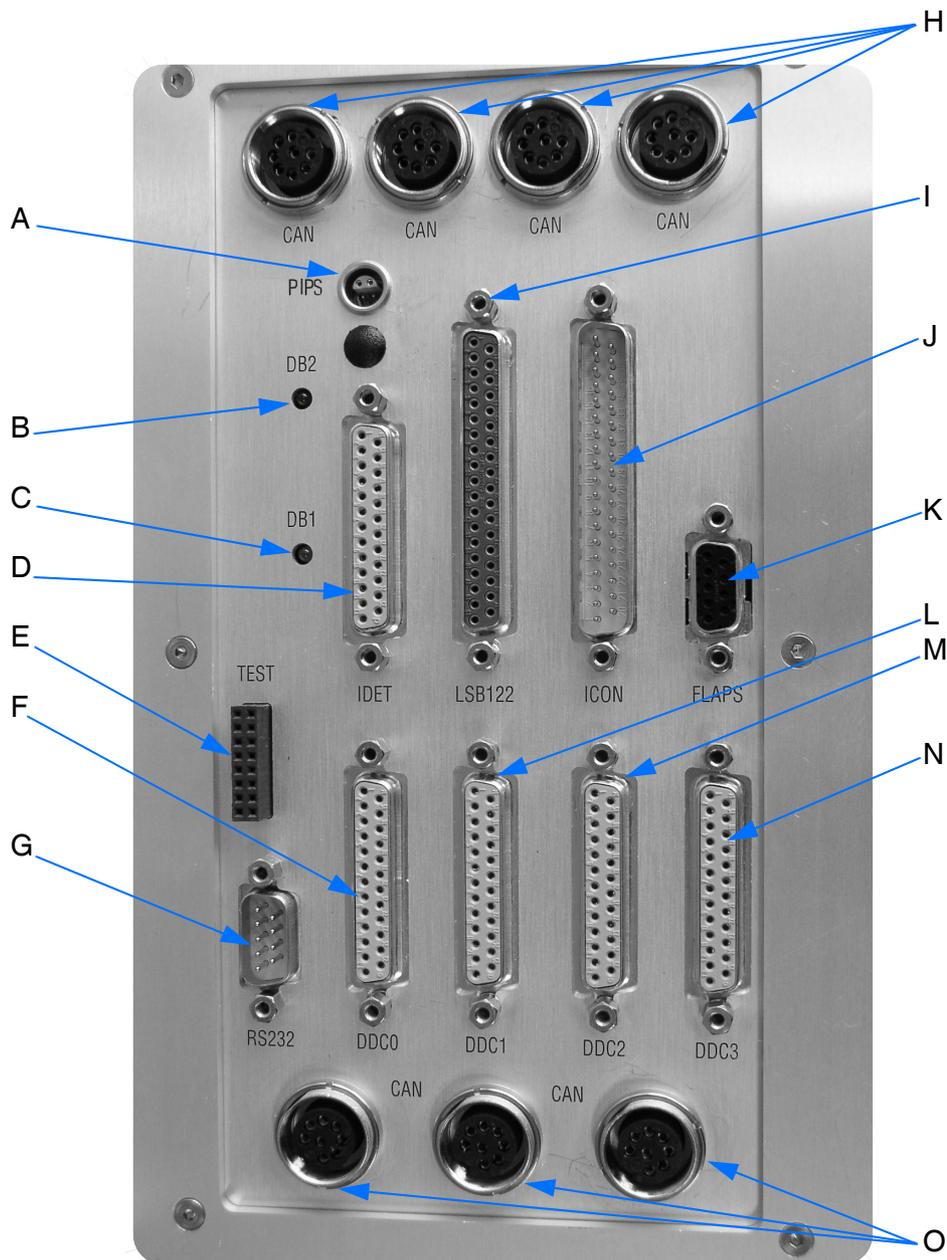
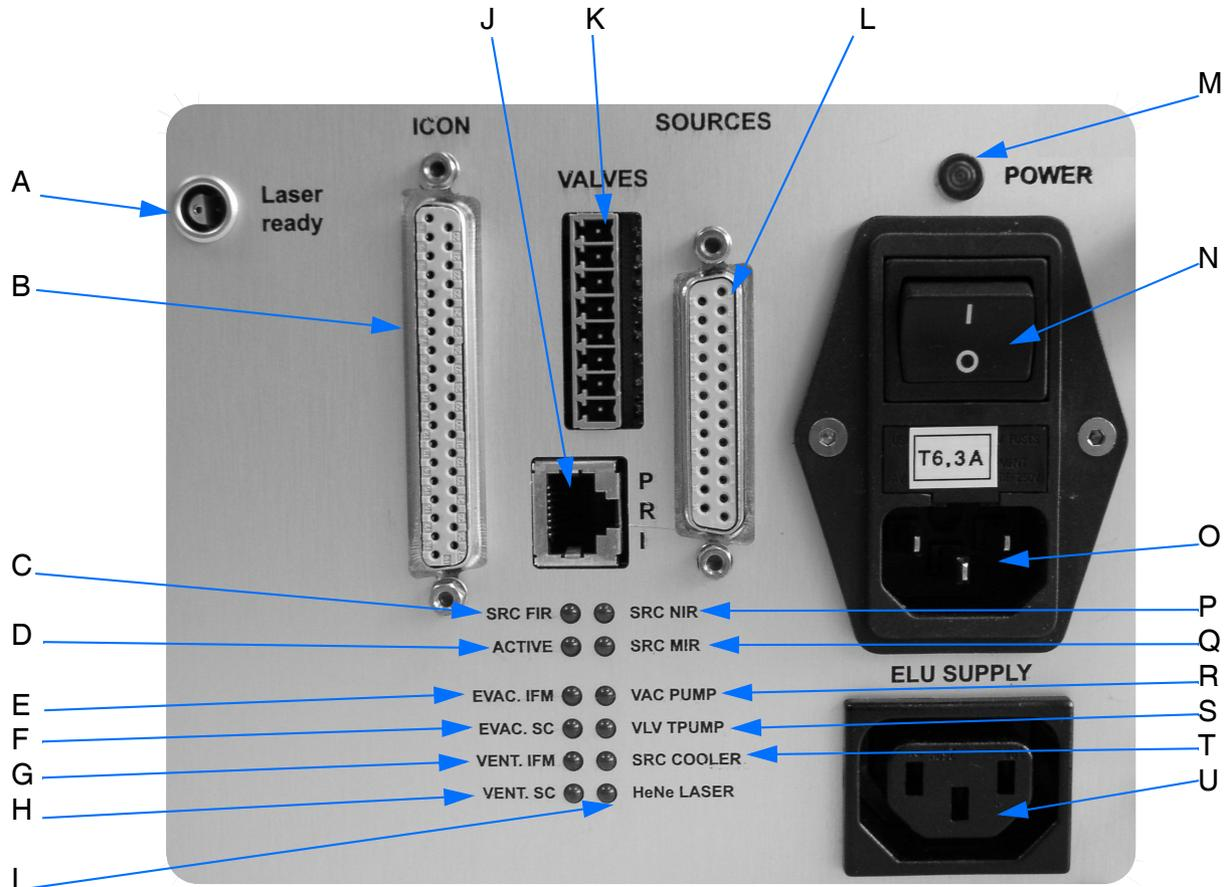
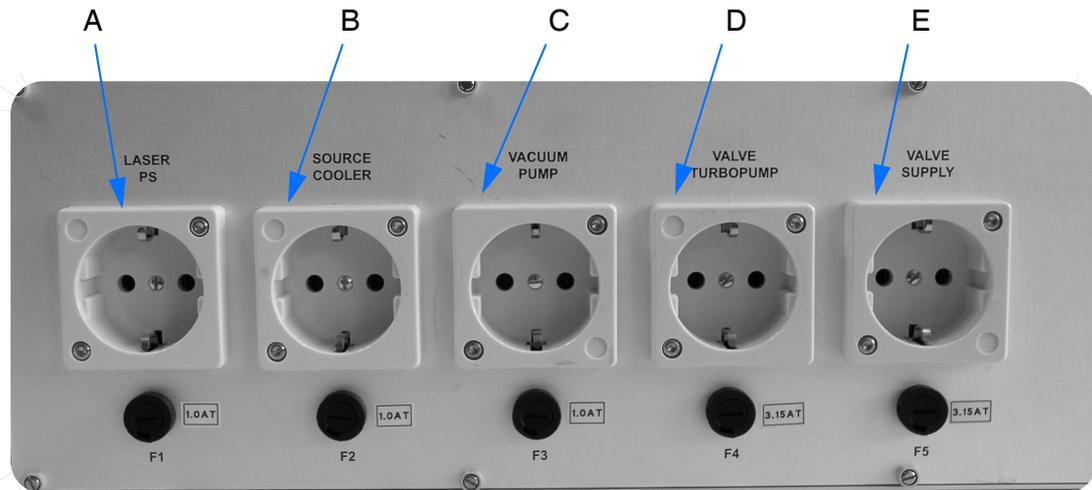

Figure 69: IFS 125 HR - Flange panel
Figure 71: IFS 125HR - Source control panel
Figure 73: IFS 125HR - Peripheral control panel
The PIPS port (A in figure 69) provides a connection to the differential pressure transducer. The sensor measures the pressure difference between the interferometer and sample compartment. The PIPS abbreviation means *Pressure Interferometer/Pressure Sample*. In case of spectrometers without any sample compartment the port should be capped by a special dummy plug.
The red DB1 (C in figure 69) is intended to be used for functions which have not yet been defined. The green DB2 LED (B in figure 69) is used to see whether data communication is performed between the flange panel and electronics panel. If the DB2 LED is ON, data are sent from the flange panel via CAN bus to the electronics panel. In case of a successful data communication the DB2 LED will be switched off again.
The IDET port (D in figure 69) provides a connection to the detector compartment. All internal detectors are connected to the IDET port which is functionally compatible to the DDC ports (0 - 3). The IDET abbreviation means *Internal Detector*.
The TEST port (E in figure 69) is intended for service and diagnostics. Do not connect any device to this port except for service purposes (for details see chapter 7).
The ports DDC 0 to 3 (F, L, M and N in figure 69) are versatile ports to connect external optical modules and detectors. These ports include a complete CAN-Bus, transmit all remote trigger signals required and establish a complete connection to DDC compatible detectors. The DDC abbreviation means *Digital Detector Connection*.
The R232 port (G in figure 69) is a spare serial interface port for future use.
The CAN bus connectors on top of the flange panel (H in figure 69) automation unit control to the different compartments of the IFS 125HR, e.g. source, interferometer, sample, detector compartment). There is no specific order to be observed when using the CAN bus connectors, i.e. they can always be interchanged.
The bottom CAN bus connectors (O in figure 69) are used for external automation units like microscopes, user-specific switching mirrors etc. They are identical to the top ones with regard to their function.
The LSB122 port (I in figure 69) provides the connection to the laser and light switch signals of the scanner. It represents a direct connection to the interferometer compartment.
The ICON port (J in figure 69) controls the sources, valves and powers of the source rack (also see figure 71) which is located above the electronics unit.
The FLAPS port (K in figure 69) controls the flaps in front of and behind the sample compartment. Flaps are automatically controlled by the vacuum control function. In case of spectrometers without sample compartment the port should be capped by a special dummy plug.
The *Laser ready* connector (A in figure 71) receives the laser-ready signal from the HeNe power supply which is located beneath the HeNe laser tube.
This port (B in figure 71) is connected to the ICON connector at the flange panel (see figure 69). It transfers all control signals required for the source, valve and power control.
The green SRC LEDs (C, P and Q in figure 71) indicate the status of the internal sources:
A blinking green Active LED (D in figure 71) indicates that the source control rack is properly operating.
The green EVAC. IFM and SC LED (E and F in figure 71) indicate the status of the 2 valves used for evacuation:
The green VENT. IFM and SC LED (G and H in figure 71) indicate the status of the 2 valves used for venting:
The green HeNe LASER LED (I in figure 71) indicates the status of the HeNe laser1:
The PRI port (J in figure 71) is used to connect the absolute pressure sensor. It must not be interchanged by the ETH connector.
The valves port (K in figure 71) provides a control connection to the 4 valves which control the vacuum for the IFS 125HR.
The sources port (L in figure 71) is used to establish the connection to the sources located in the IFS 125HR source compartment.
If the power supply indicator (M in figure 71) lights red, power is available to the instrument.
This main power switch (N in figure 71) is used to switch the spectrometer on and off. This switch interrupts the primary voltage supply.
1. Correct operation can only be ensured if the HeNe laser power supply is connected to the *LASER PS* socket (A in figure 73), and the LAS/RDY cable is installed (A in figure 71).
The mains power connector (O in figure 71) is a power input which is connected to the mains.
The green VAC PUMP LED (R in figure 71) indicates the status of the vacuum pump unit. By means of this LED it is possible to check the vacuum pump operation, provided the starter box is connected to the *Vacuum Pump* socket (see figure 73). The abbreviation VAC means *Vacuum*.
The green VLV TPUMP LED (S in figure 71) indicates the status of the turbo pump valve, which can optionally be installed. By means of this LED it is possible to check the turbo pump valve operation, provided this unit is connected to the *Valve Turbopump* socket (see figure 73). The abbreviation VLV means *Valve*.
The green SRC COOLER LED (T in figure 71) indicates the status of the source cooler unit. By means of this LED it is possible to check the source cooler operation, provided this unit is connected to the *Source Cooler* socket (see figure 73). The abbreviation SRC means *Source*.
The ELU supply port (U in figure 71) is the power outlet for the electronics unit rack. This port is switched off together with the main power switch (N in figure 71).
The IFS 125HR peripheral control panel at the rear side of the source supply unit includes different power sockets with the corresponding fuse holders. The line voltage and frequency of these sockets corresponds to the one supplied at the mains power connector (O in figure 71). **Make sure that the devices connected to any of these sockets comply with the voltage and frequency values of the mains power at connector O.**